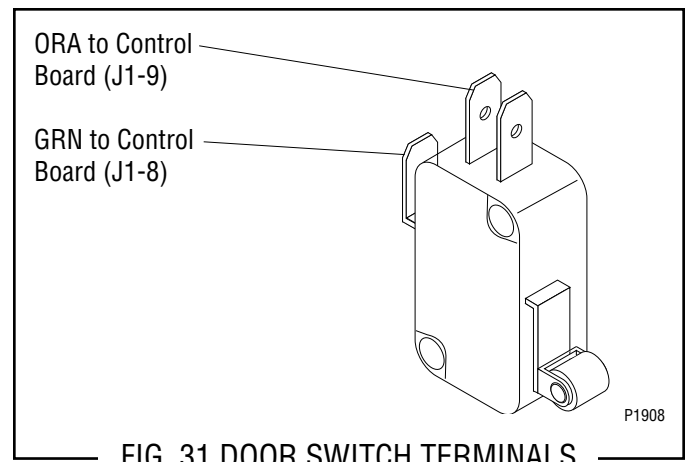

FIG. 31 DOOR SWITCH TERMINALS
14. Reconnect the wires to the door switch. Refer to Fig. 31.